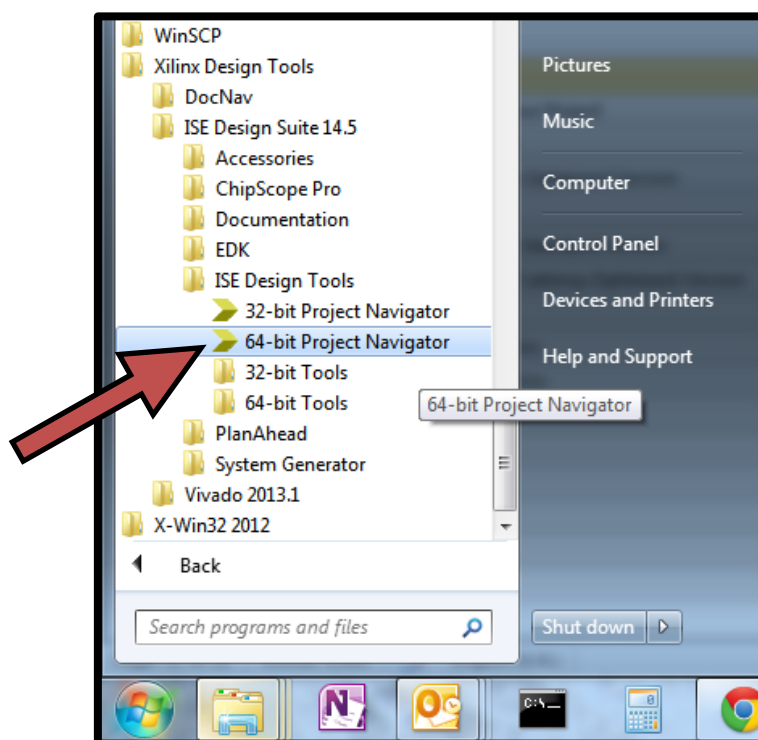

Figure 24: Opening ISE
8. Open ISE (It may be both, the 32bit or 64bit versions) (see Figure 24).